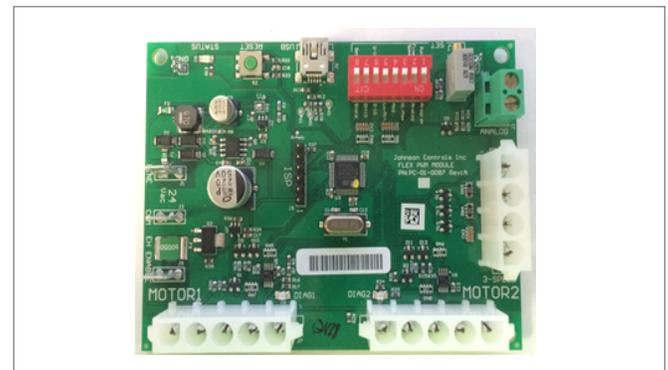

Figure 27 – G3 PWM Board
- a. Locate the G3 PWM board within the control enclosure (See Figure 27).